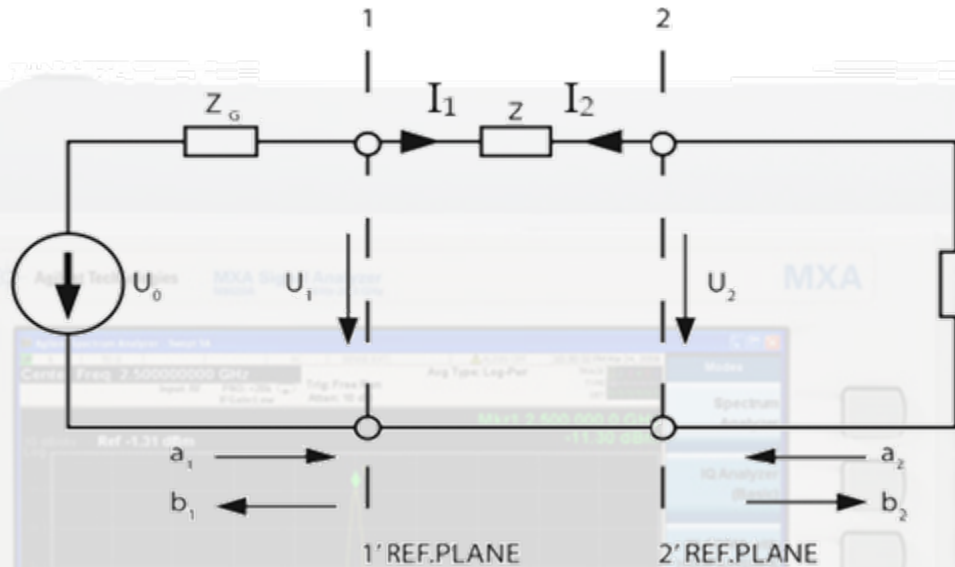

Fig.2. 2-port network
- ◆ Let us start by considering a simple 2-port network consisting of a single impedance Z connected in series (Fig.2). The generator and load impedances are Z_G and Z_L , respectively. If $Z = 0$ and $Z_L = Z_G$ (for real Z_G) we have a matched load, i.e. *maximum available power* goes into the load and $U_1 = U_2 = U_0/2$.